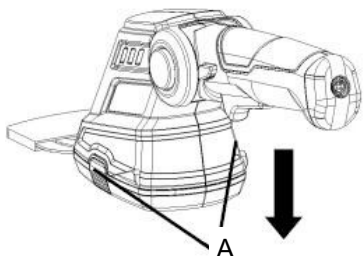

Fig. 1
1. Press the blade release button (A) and slide the blade downward to remove as shown. (Fig. 1)